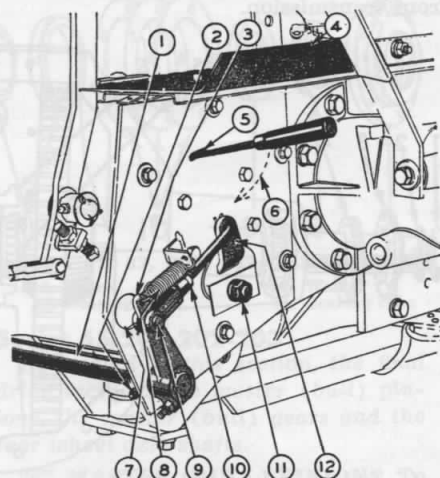
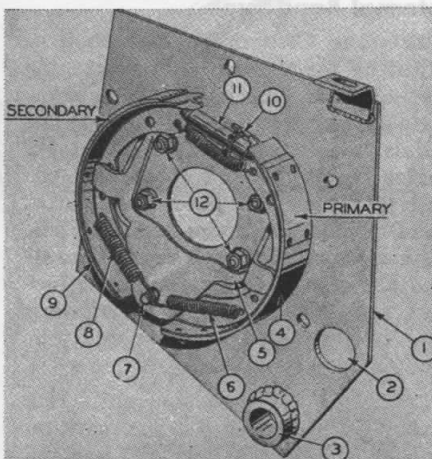

Fig. MH385—Typical Bendix shoe type brake controls as used on models 30, 30K, 44, 44D, 44K, 44LP, 44(6), 55, 55D, 55K, and 55LP.
Fig. MH386—Inside view of Bendix shoe type brakes as used on models 30, 30K, 44, 44D, 44K, 44LP, 44(6), 55, 55D, 55K and 55LP.
285. MINOR ADJUSTMENT. Jack up rear end of tractor and make certain that pedals are fully released and linkage is not binding. Insert a screw driver or special brake adjusting tool in star wheel hole (5—Fig. MH385) and turn star wheel to obtain a pedal free travel of ½–¾ inch. Check both pedals for equal travel and readjust to equalize, if necessary.
286. MAJOR ADJUSTMENT. Support rear of tractor and disconnect brake linkage from cam lever (12—Fig. MH385). Loosen anchor pin nut (11) not more than one full turn. Loosen the six cap screws which retain the brake plate (1—Fig. MH386) to transmission housing (or brake mounting flange assembly on 55 series) until brake plate is free to move. On some models, it will be necessary to
block up front end of platform to allow sufficient room for the brake plate to move. Insert a screw driver or special brake adjusting tool in star wheel hole (5—Fig. MH385) and turn star wheel until it is impossible to turn wheels by hand. Tighten the anchor pin locknut and the six brake plate retaining cap screws securely. Reposition platform (if platform was moved). Pull brake pedals back against platform, and while holding brake cam lever (12) fully forward by hand pressure only, adjust brake linkage until pin (9) will freely slide into position.